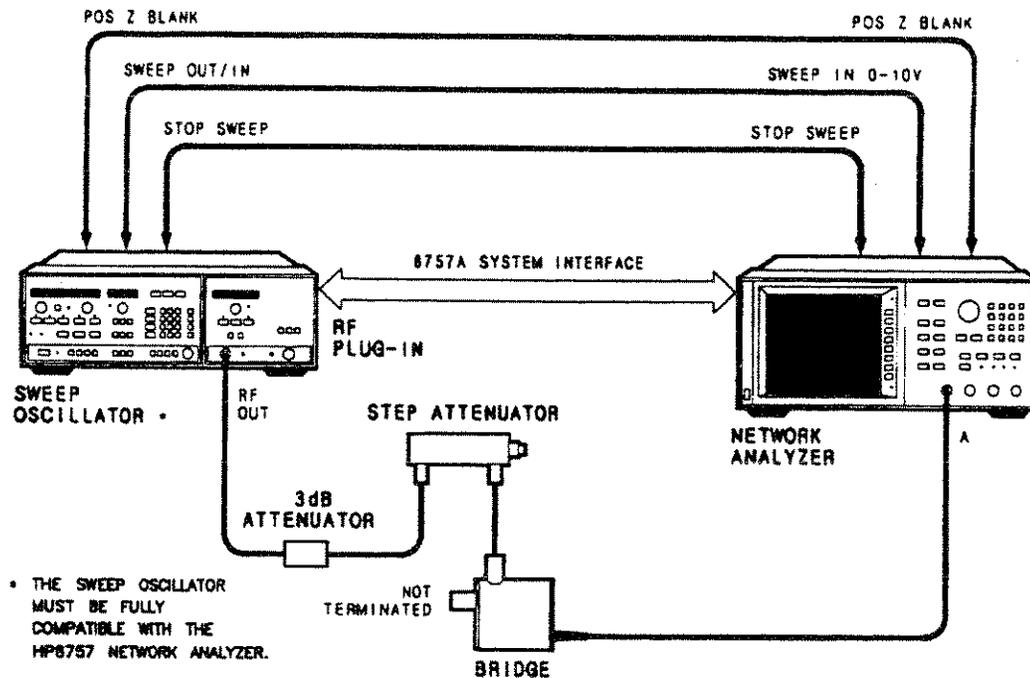

Figure 4-2. Dynamic Power Accuracy Performance Test Setup
Using the setup illustrated in Figure 4-2 the scalar network analyzer is used to measure the dynamic power accuracy of the bridge under test.
1. Set up the equipment as shown in Figure 4-2, preset the instruments and allow 30 minutes for warm-up.